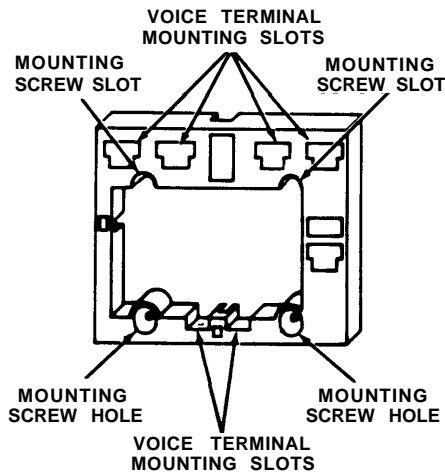

Figure 1
1. Select the wall mounting location; using the wall mount as a template, mark the four mounting hole locations (two upper slots and two lower holes (see Figure 1).